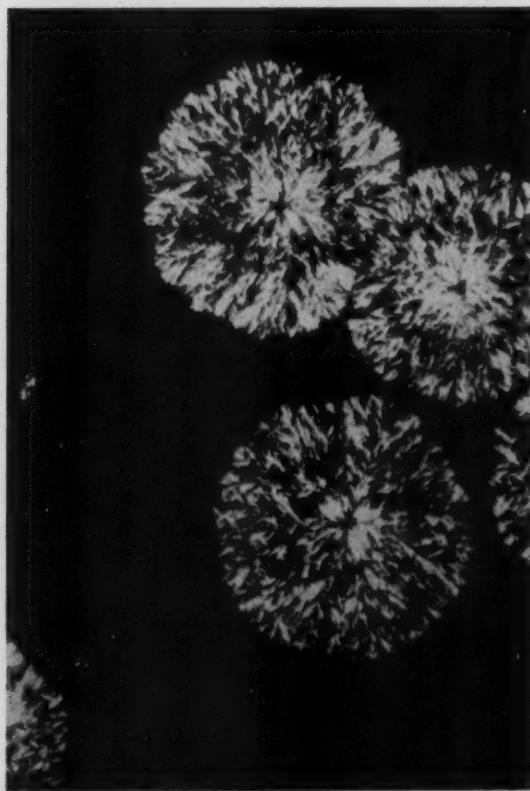

Fig. 4. Growth of stable form of cacao butter at 20° C (68° F.).
Microscopical observation in polarized light, as first done by Reinders (33) shows easily that cacao butter is able to exist in at least two modifications, the stable one growing slowly at the expense of the unstable form. (40). This is represented by Fig. 1-5. A drop of molten cacao butter was placed on a slide and covered with a cover-glass. The slide was rapidly chilled at 0°C (32°F) and kept at that temperature for half an hour. It was then brought to room temperature (about 20°C or 68°F) and continuously observed for several weeks. At zero time (Fig. 1) a bright microcrystalline mass is observed. After about two hours this has become much duller but very bright crystal nuclei appear which grow rapidly and after 5 hours small spherulites of about 50 microns in diameter can be distinguished (Fig. 2). For the first two days growth of the bright crystals continues at the same rate—Fig. 3 shows the appearance after 30 hours. Thereafter the growth is much slower but continuous. After 5 days (Fig. 4) the bright crystals occupy